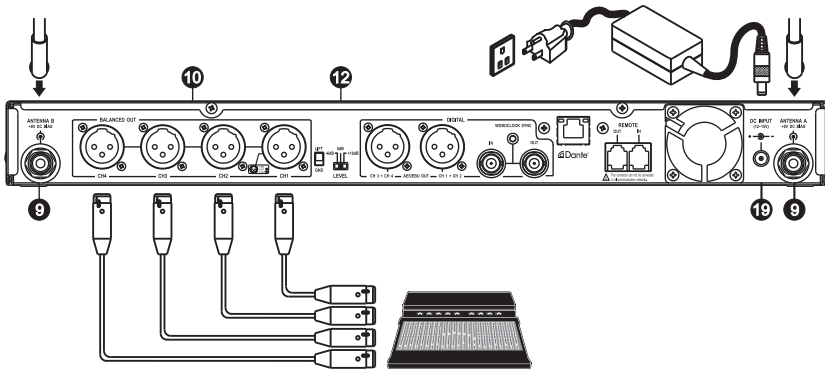

Fig. 2
## II. Receiver Installation. Fig. 2
1. Connect an antenna to each antenna connector ⑨ on the rear panel.
2. Power Connection: Connect the power supply to the DC input jack ⑲ and plug the other end into an AC power source.
- (A) Each channel signal output can be connected to the mixer or amplifier's MIC IN jack by using a cable with balanced XLR connector. Fig. 2